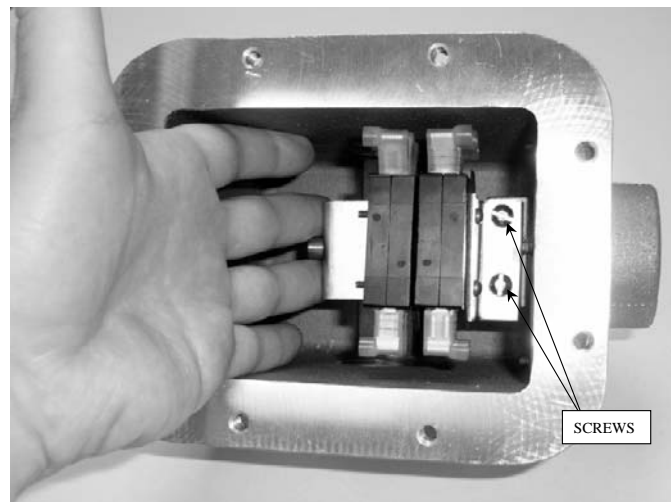

Figure 8: While holding spring retainer, replace screw to hold retainer in place. The spring retainer may be removed for access to the ground screws.
5. Replace 1 screw to hold spring retainer in place (see Figures 8 & 9). Spring retainer may be temporarily removed to access 2 ground screws below.